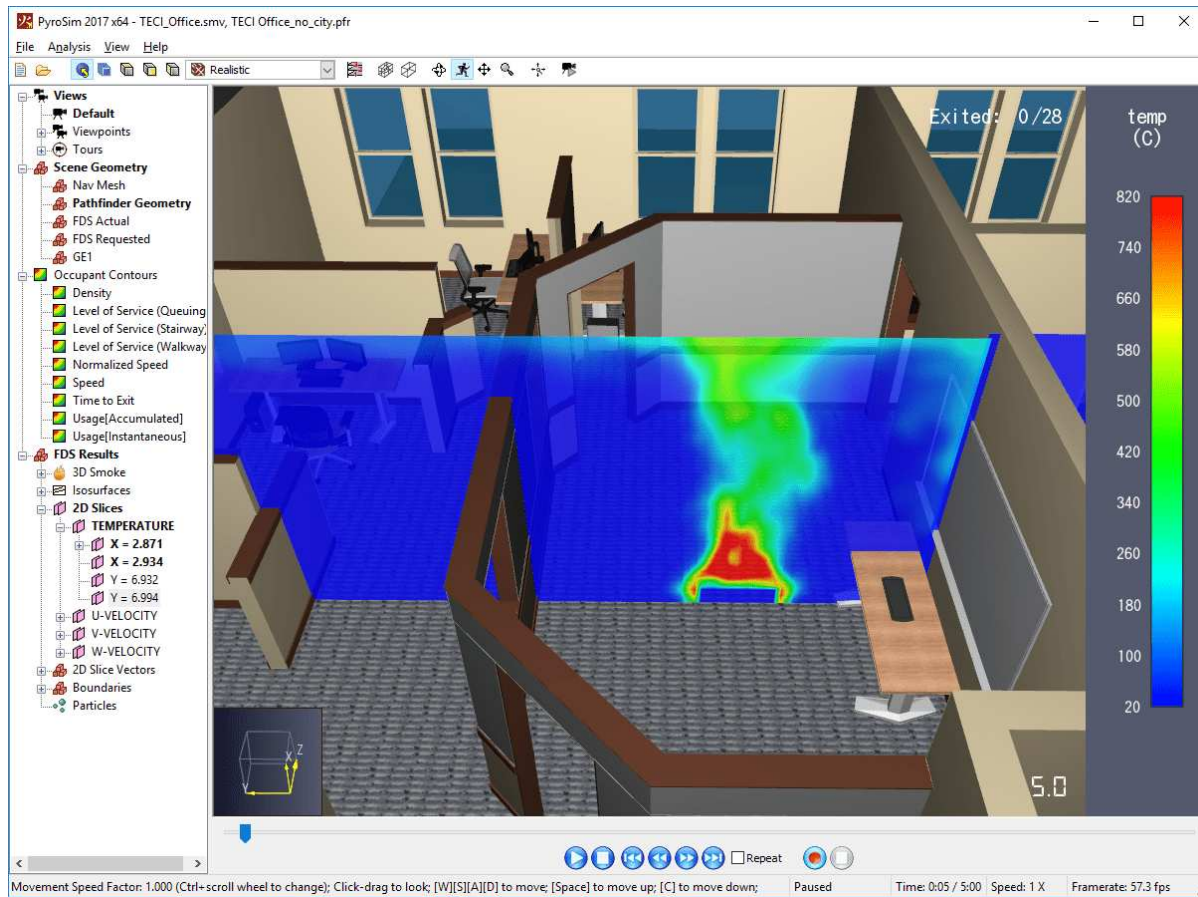

Figure 50. Results colorbar
- If necessary, a colorbar is added to the right side of the main window as shown in Figure 50. The colorbar can be edited as described in Section 6.3.
Nearly all FDS and Pathfinder results data are colored with a colormap (exceptions include 3D Smoke, Particles viewed with the **Default** coloring, and some occupant coloring options). A colormap provides a way to map data values to a color that can be displayed on the screen. When a colormap is in use, it will be shown as a colorbar on the right side of the 3D View as shown in Figure 50. If both FDS Results and Pathfinder occupant contours are displayed at the same time, there may be multiple colorbars displayed at once.
The colorbar shows the colormap as well as which data values are mapped to the colors. At the top, it also shows an abbreviation of the quantity and the quantity's unit in parentheses. In Figure 50, the label "temp" corresponds with the quantity, **TEMPERATURE**, and the unit is **C** for degrees Celsius.